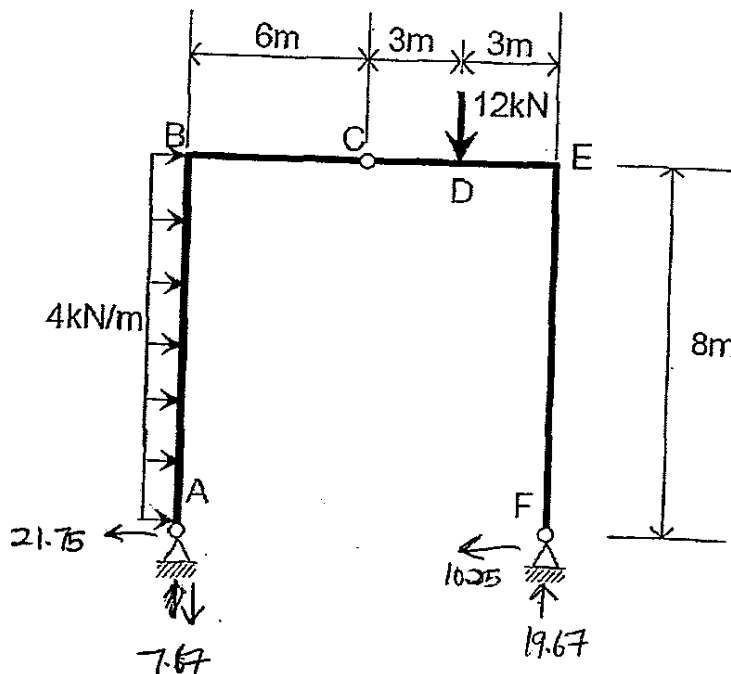

Figure Q2
2. The frame ABCDEF shown in Figure Q2 is pin-supported at A and F, and hinged at C. The column AB is subjected to a uniformly distributed load of 4 kN/m. A point load of 12 kN is applied at D, as shown in Figure Q2.